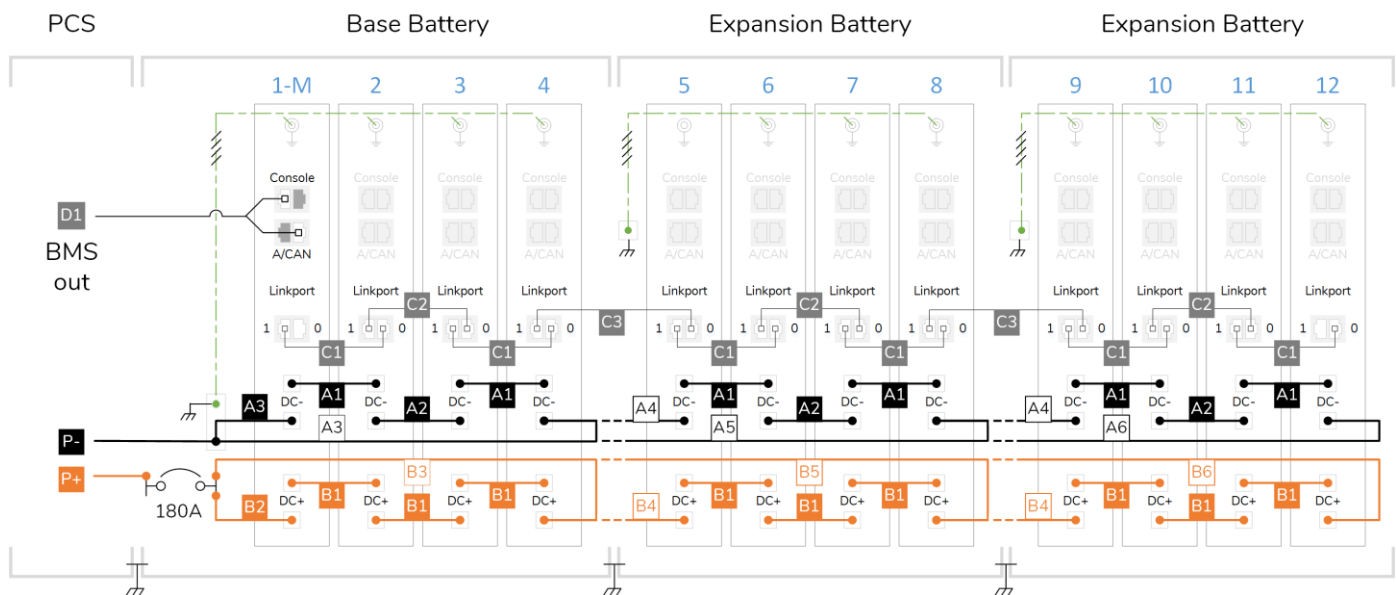

Figure 25: Evolve LFP electrical block diagram of internal system components.
2. See section 5.5 (figure 12) – remove the lower DC- cable (referenced A3) from the DC- terminal, and replace with the cable referenced A5 in figure 25 below.